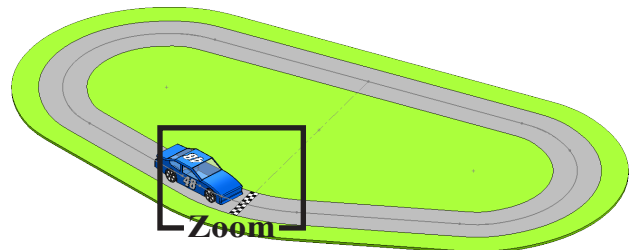

Fig. 2
Step 2. **Zoom in around Car Assembly and Start/Finish line, Fig. 2.** To **zoom**, hold down **Shift** key and drag with middle mouse button (wheel). To **pan**, hold down **Ctrl** key and drag with middle mouse button (wheel).